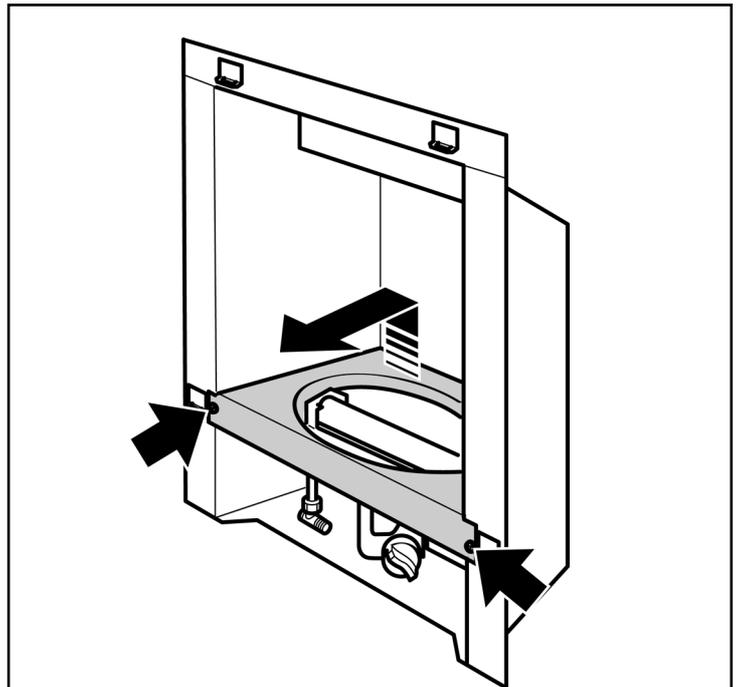

Figure 43. Removal of Burner Module
6. Remove the two screws to the side of the burner cover (See figure 43)
7. Detach the burner cover by lifting clear of the burner module (See figure 43). Place the burner cover in a safe place away from the work area.